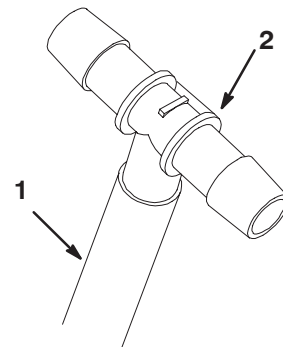

Figure 18
25. Insert the tee fitting into the end of the short hose (Fig. 18).